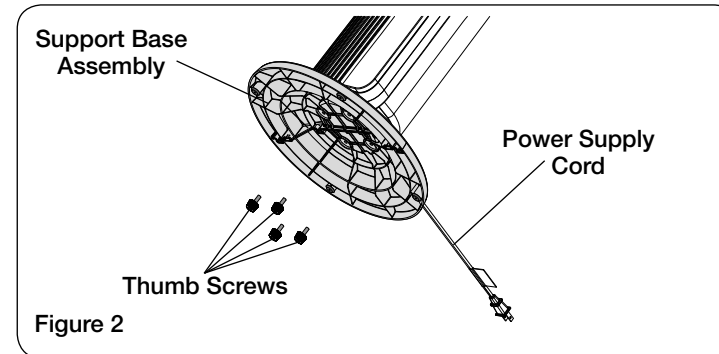

Figure 2
3. Align the Support Base Assembly with the Motor Base. Make certain to align the Key on the Support Base Assembly with the Locating Notch on the Motor Base. Attach the Support Base Assembly to the Motor Base with thumb Screws (Figure 2).